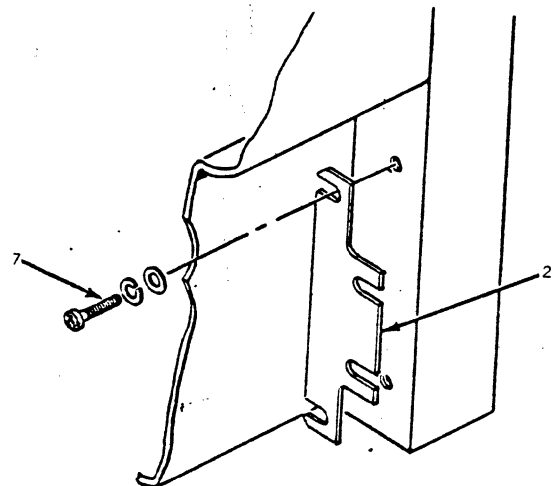

Figure 7-6. Mounting Plate Installation
- Attach mounting plates (2) to each side of the disk drive enclosure (front) as shown in Figure 7-6.